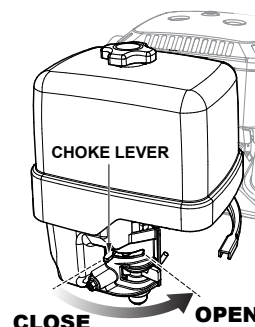

Figure 16. Choke Lever (Open)
7. If the choke lever was moved to the "CLOSED" position to start the engine, gradually move it to the "OPEN" position (Figure 16) as the engine warms up. If the engine has not started, repeat steps 1 through 6.